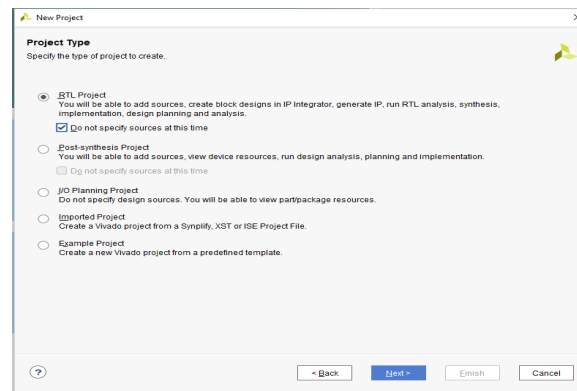

FIGURE 1.4: Choosing New Project
3. In the New Project dialog choose *RTL Project* and check the *Do not specify sources at the time* box. Click *Next* to continue. (Figure 1.4)